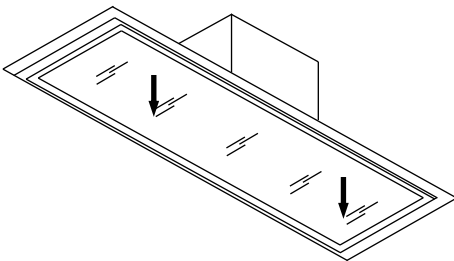

Fig 5
1. Pull down at each side of the glass cover to open (Fig 5).